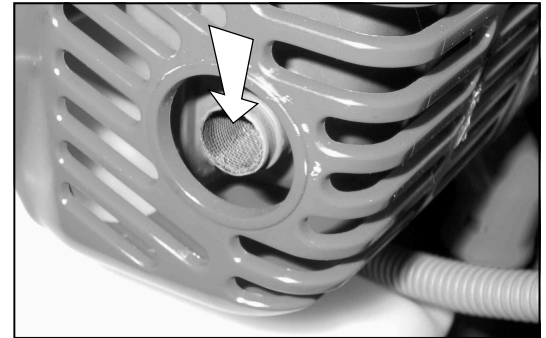

fig.6
- Exhaust system equipped as standard with **flame trap** (easily removable) (fig.6).